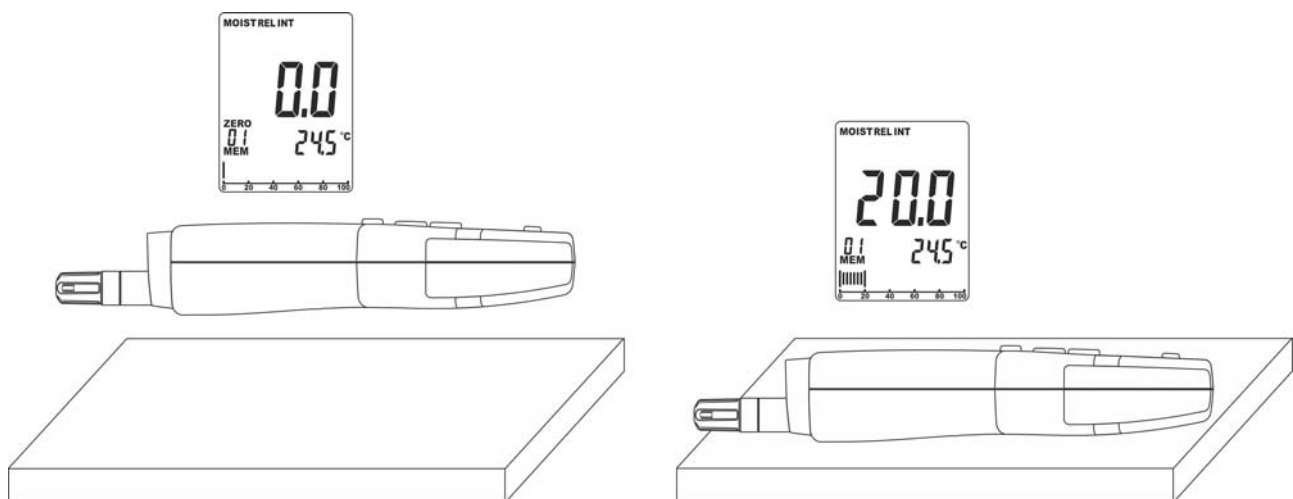

Fig. 8: Use of the instrument for measuring moisture with contact with the in-built sensor
5. In case the value is not zeroed, press and hold (>2s) key **MODE/ZERO**. Symbol “ZERO” appears on the display for a moment and the value is zeroed on the main display (see Fig. 8 – left side).